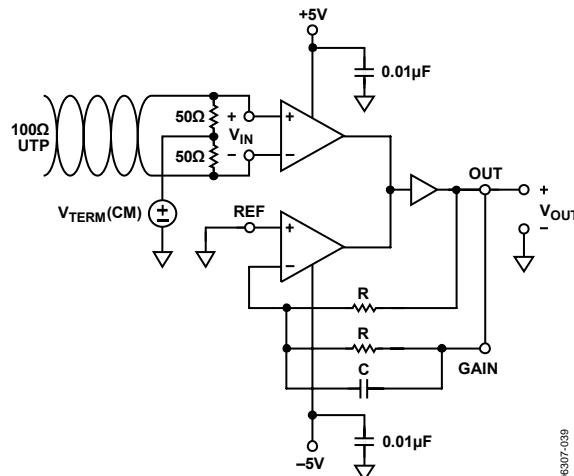

Figure 38. Common-Mode Termination with  $G = 1$
Some applications require common-mode terminations for common-mode currents generated at the transmitter. In these cases, the 100  $\Omega$  termination resistor is split into two 50  $\Omega$  resistors. The required common-mode termination voltage is applied at the tap between the two resistors. In many of these applications, the common-mode tap is connected to ground ( $V_{TERM} (CM) = 0$ ). This scheme is illustrated in Figure 38.